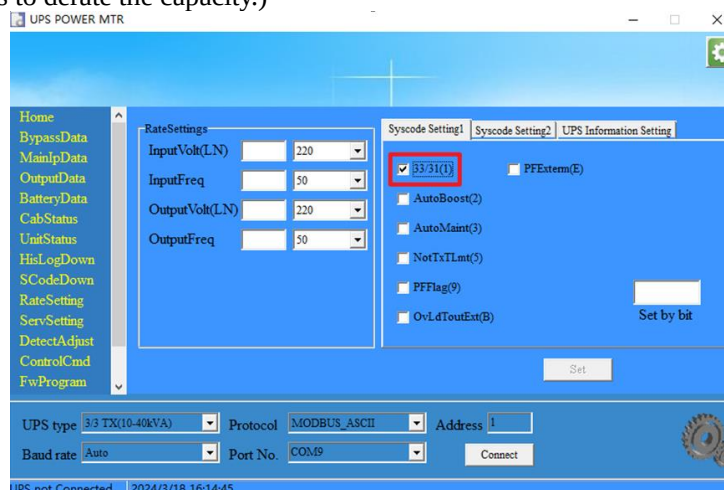

Figure 3-15 Setting interface of MTR software
c. Close the external input breaker, connect the MTR software, and set the related parameters as Figure 3-15 below. Tick the box in front of the option “Out 3/1(1). Then completely cut off power and reboot to ensure settings working. (Only 10K and 20K machines support, 15K and 25K need to contact engineers to derate the capacity.)